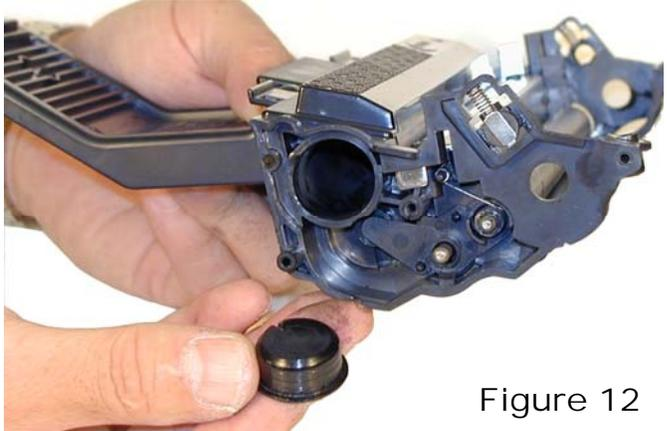

Figure 12
12) Carefully pry out the fill plug. It fits tight and is easily damaged. Work a small jeweler's screwdriver around the edge until the plug comes free. See **Figure 12**